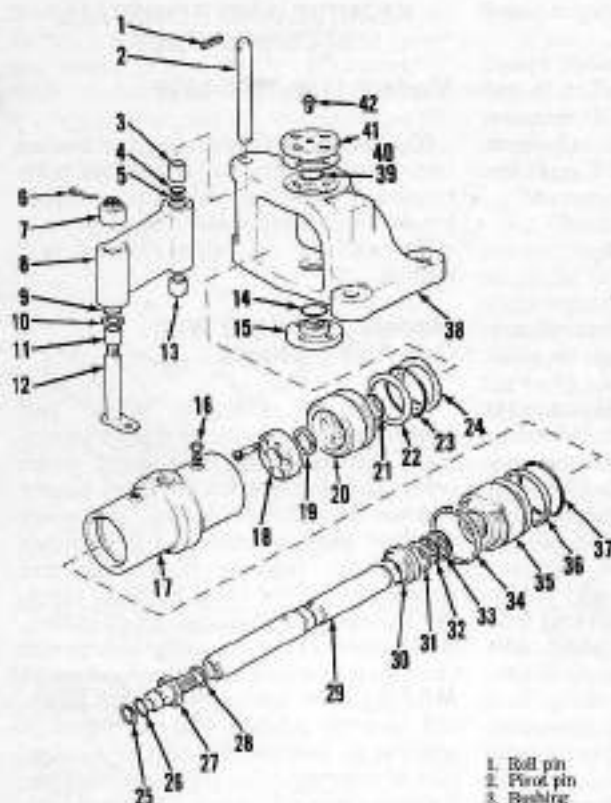

Fig. 40—Exploded view of transverse mounted steering cylinder showing component parts and their relative positions.
79. To remove steering cylinder first remove front axle as outlined in paragraph 5. Disconnect tie-rods from fork (38—Fig. 40) and all hydraulic lines to cylinder. Remove snap rings (25) at each end union (27), pull pipes away and remove both unions and all spacing washers (28). Remove cotter pin (6) and nut (7) from pivot pin (12) and remove pivot pin. Remove cylinder assembly. Remove screws retaining ball pegs (15 and 41), remove ball pegs and shims (40) noting position and thickness of shims. Remove cylinder from fork (38).
80. To reinstall cylinder, install sealing ring (14—Fig. 40). Put cylinder assembly in fork (38), install lower ball peg (15) and tighten screws. Install sealing ring (39), shims (40) which were removed and ball peg (41). Tighten screws and remove lube fitting (42).
Install cylinder assembly **MINUS** spacing washers (28 - Fig. 40) and install special unions (27). Move cylinder to one end and measure gap at opposite end
84. Clear cylinder of oil as necessary by moving piston rod through its complete stroke. Remove snap ring (34—Fig. 40) and sleeve assembly (35). Mark piston rod (29) and cylinder (17) for reassembly and remove piston rod (29). Remove the six screws and locking plate (18). Remove split ring (19) and piston (20). Remove snap ring and sleeve assembly from opposite end of cylinder